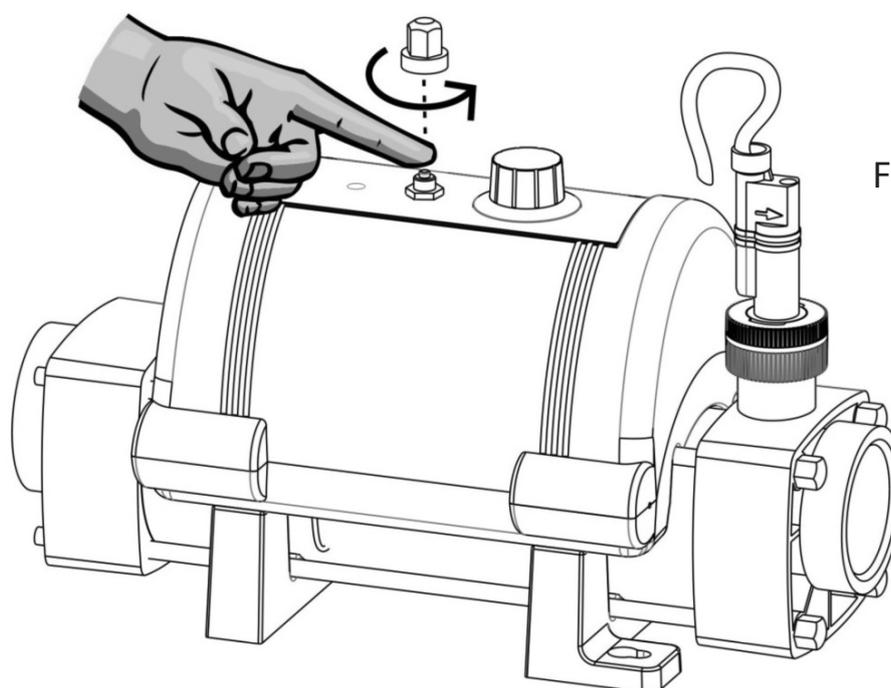

Fig 4.
**Remedy:** Remove button cover and press red button to reset (see fig 4)